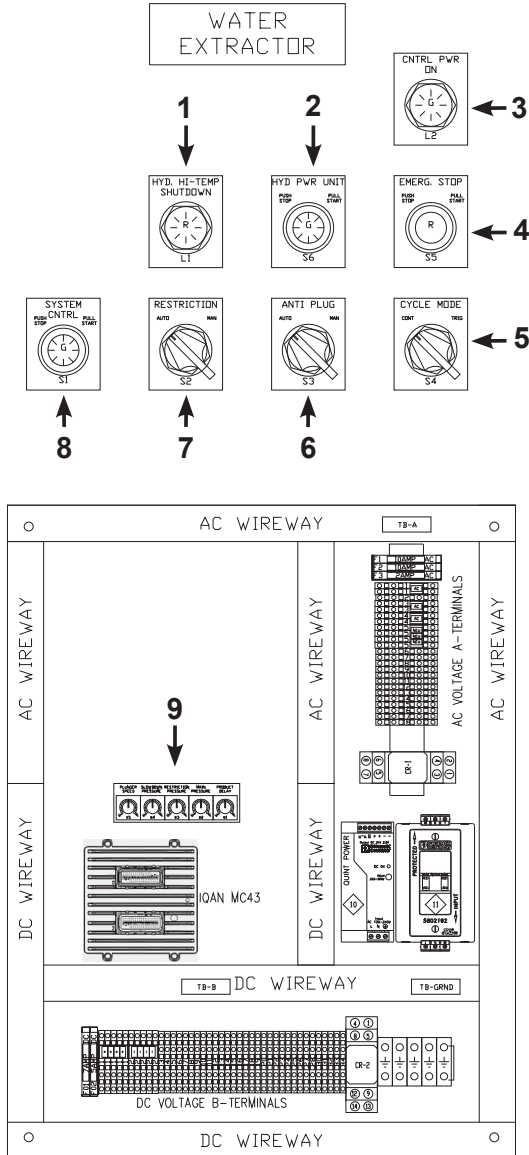

Figure 21 - Control Box
1. Push the EMERG STOP switch (see Figure 21 - Pg. 17). This stops the plunger and turns off all power to the water extractor.